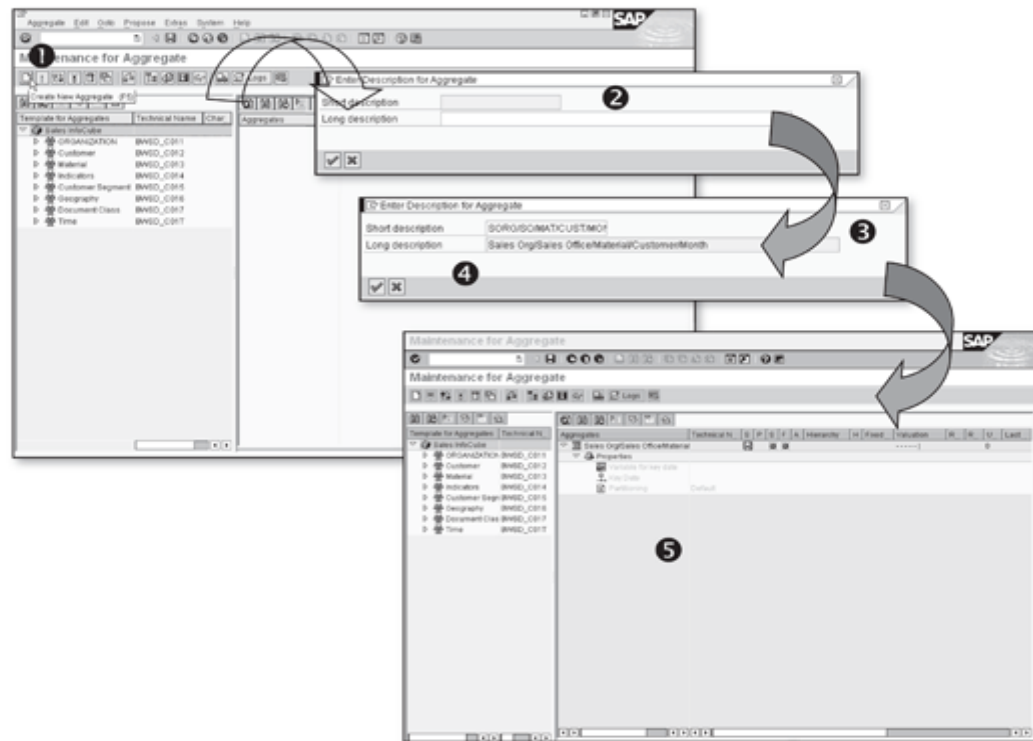

Figure 14.21 Create Aggregate
The system takes you to the maintenance screen for aggregates, which has two panels; the left panel shows the dimensions, characteristics, and navigation attributes of the selected InfoCube (❶ of Figure 14.21). From the dynamic menu bar, click on the Create New Aggregate icon (❷). A pop-up box appears, where you can enter the short and long text description for the aggregate (❸). Enter the description (❹), and click on the Continue icon (❺) to return to the Maintain Aggregates screen (❻).